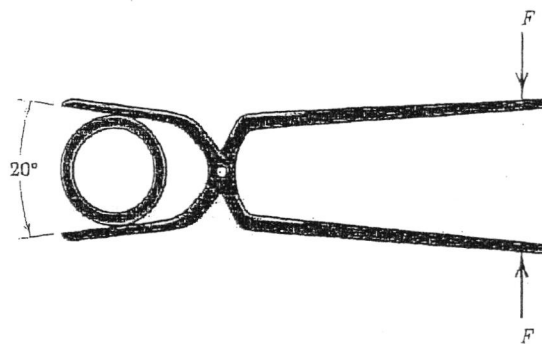

Fig. Q.2
2. The tongs are used to handle hot steel tubes that are being heat-treated in an oil bath. For a 20° jaw opening, as shown in Fig. Q.2., what is the minimum coefficient of static friction between the jaws and the tube that will enable the tongs to grip the tube without slipping. 12